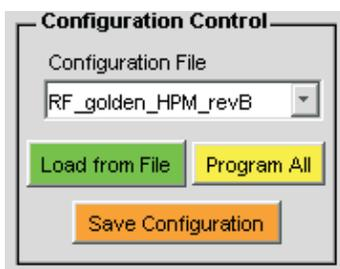

Figure 18. Configuration Control Box
- In the Configuration Control box (Figure 18) located in the main GUI window, click on the “Load from File” button inside the Configuration Control box.